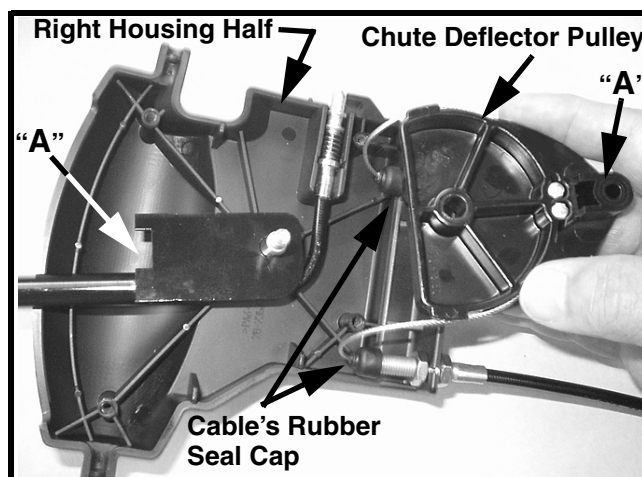
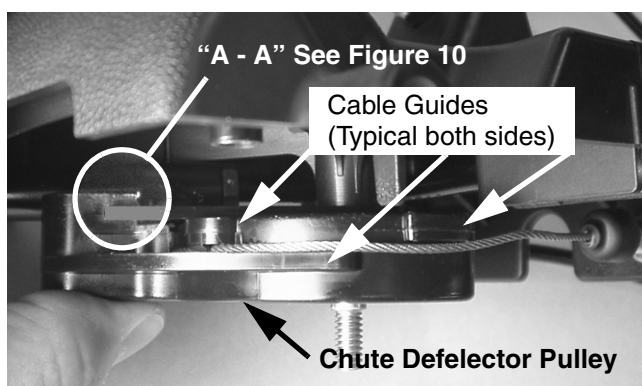

FIGURE 11
FIGURE 12
29. Insert the center shoulder bolt into the right housing half. Place the joystick lever assembly onto the center shoulder bolt as shown in Figure 11.
30. Re-install joystick lever assembly with its notched plate up as shown on the inside of the right housing half. See Figure 11. (4-Way Chute Control joystick lever assembly shown.)
31. Make sure that the cable's rubber seal caps are set completely down on the threaded cable ends as shown in Figure 11. Ensure that the chute deflector control cables are positioned within their guides as shown in Figure 12.
32. Holding the right housing half with the joystick lever assembly installed in your right hand place the chute deflector cable's/pulley sub-assembly onto the center shoulder bolt as shown in Figure 12.
NOTE: Ensure that both chute deflector cables are properly routed between the pulley guides as shown in Figure 12. If you had removed the discharge chute's deflector mechanism or just its cables at the discharge chute, it may be necessary to pull any excess cable from the joystick control housing to ensure proper cable routing.
40. Select the corresponding two cables of the chute motion requiring adjustment. See Figure 12.